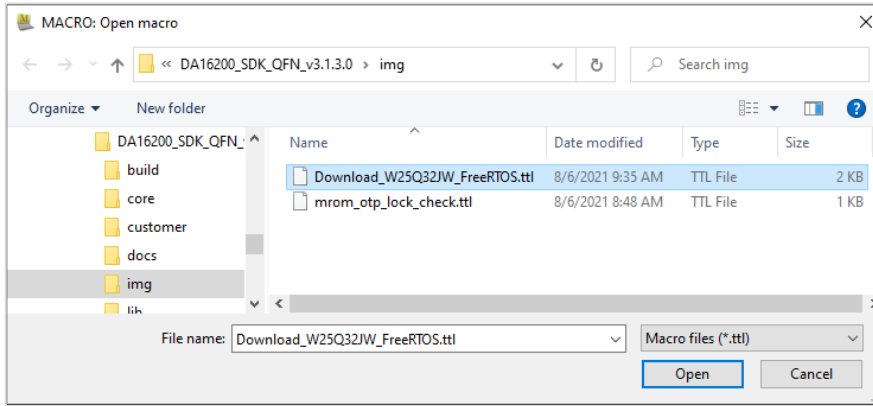

Figure 11. Open macro file
2. When the **MACRO: Open Macro** file selection window opens, navigate to the directory where the firmware images are stored and select the `.ttl` file as shown in Figure 11.